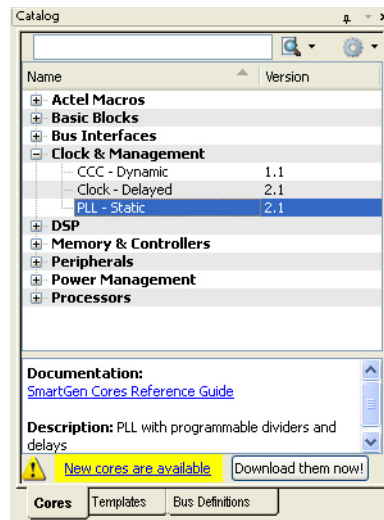

Figure 1-7 • Project Manager Catalog - Cores Tab
1. From the **Catalog**, in the **Cores Tab**, under **Clock & Management**, double-click **PLL - Static** (see Figure 1-7).